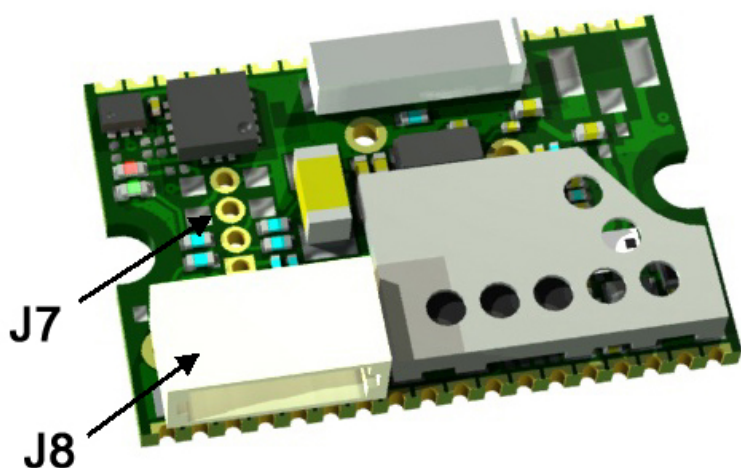

Figure 4: The JST connector J8 mounted on the component side of the PCB.
- Via the JST connector, J8 (see Figure 4). The connector is a 6 poles wire connector. The pitch is 1mm. The manufacturer of the mounted connector is JST and the part number is SM06B-SRSS-TB. The SM06B-SRSS-TB connector is mated with the wire connector SHR-06V-S from JST. Other connector options are also available from JST.
- Via the 4x1 through holes row J7 (see Figure 4) for solder wires or through holes components to the board (1.27mm pitch).